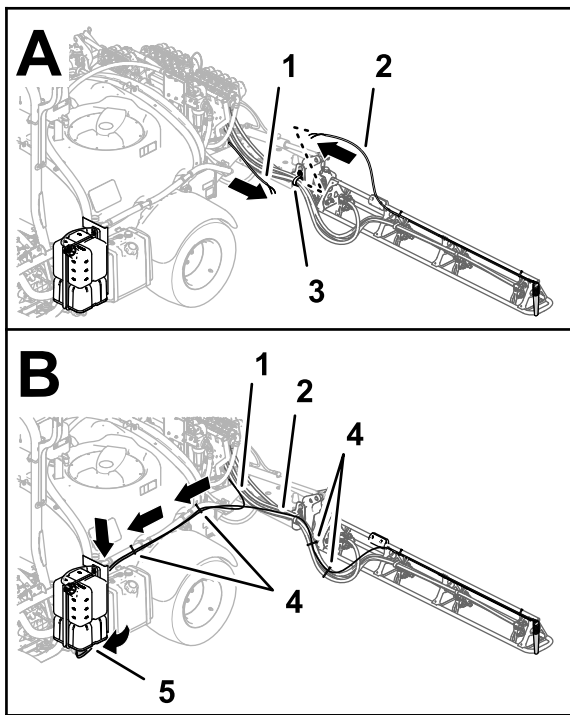

Figure 140
1. Route the tubes for the foam nozzles at the left- and right-spray section, inboard and through the R-clamp near the pivot point for each outer-spray section (Figure 140).
2. Route the tubes forward along the left side of the sprayer tank (Figure 140).
3. Secure the tubes for the left and right foam-marker nozzles to the sprayer hoses with 4 cable ties as shown on Figure 140.
4. Secure the tubes for the left and right foam-marker nozzles to the tubes for the agitation with 2 cable ties as shown in Figure 140.
9. Secure the foam marker tubing to the sprayer nozzle hoses with 2 cable ties (Figure 140).